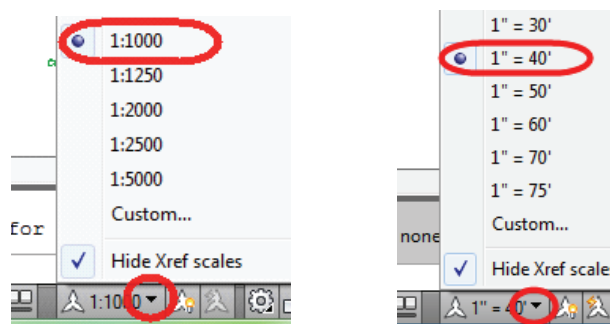

Figure 2–10
2. To make the annotation easier to read, change the current drawing scale. In the Status Bar, set the Annotation Scale to **1:1000 (M)** or **1:40 (I)**, as shown in Figure 2–10.
3. Create a parcel from existing objects in Model Space. In the *Home* tab > *Create Design* panel, select **Parcel > Create Parcels from Objects**, as shown in Figure 2–11.